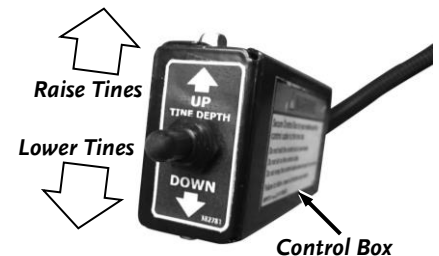

Figure 16
1. Push the Toggle Switch to the Up position and hold. When you release the Switch, it will return to center (OFF) position (**Figure 16**).
1. Push the Toggle Switch to the Down position and hold. When you release the Switch, it will return to center (OFF) position (**Figure 16**).